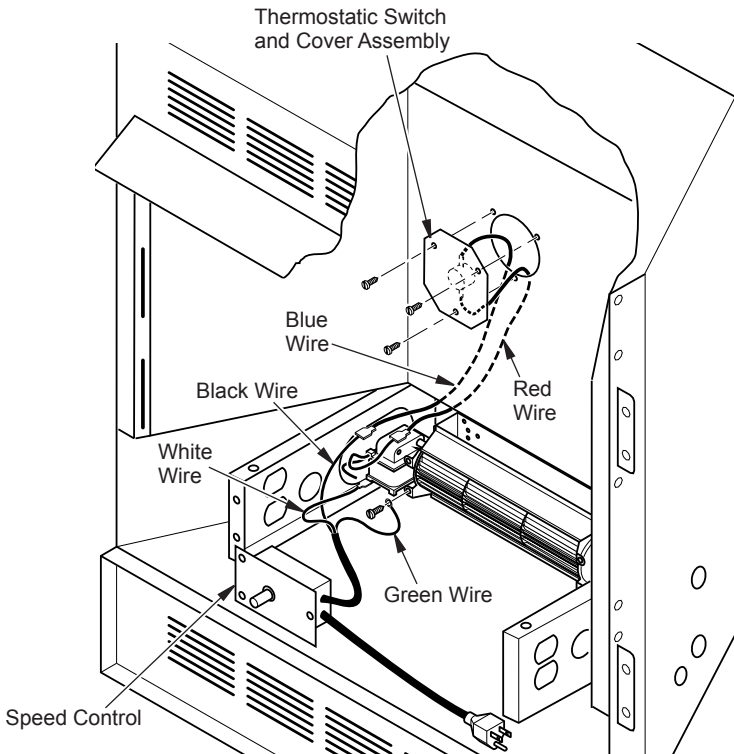

Figure 2 - Installing Switch and Cover Assembly, and Speed Control
- Remove the three screws (do not discard) and cover plate from center of firebox wrapper rear wall. Discard this cover plate (see Figure 2).
- Mount the supplied thermostatic switch and cover assembly into firebox wrapper wall. Do this by feeding terminal ends of wire harness into the hole. Allow wires to fall to bottom of firebox cavity (see Figure 2).
- Using three screws from step 7, attach switch and cover assembly to firebox wrapper rear wall. Tighten screws firmly (see Figure 2).
- Firmly attach red wire from the thermostatic switch and cover assembly to either of the terminals on the blower motor (see Figure 2).
- Firmly attach black wire from speed control cord to blue wire from thermostatic switch and cover assembly (see Figure 2).
- Firmly attach white wire from speed control cord to remaining terminal on blower motor (see Figure 2).
- Using screw provided, attach green ground wire from speed control cord to blower housing. Tighten screw securely (see Figure 2).